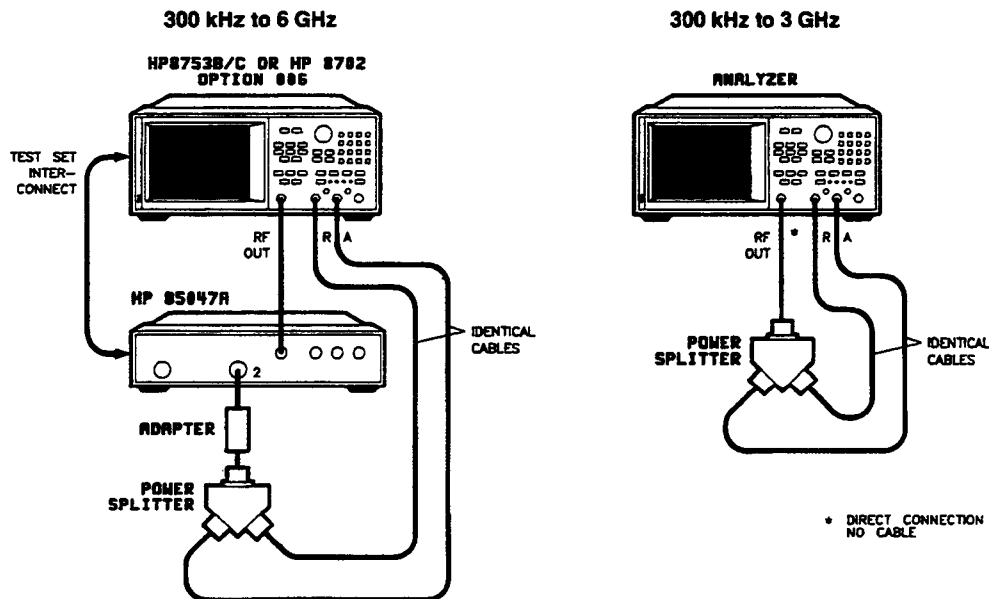

Figure 20. Input A Sampler Correction Constant Setup
Figures 20, 21, and 22 each show two different test setups. The setup without an HP 85047A test set is for instruments which do not have option 006. The setup with an HP 85047A test set is for testing option 006 instruments.
18. When the instrument completes the first part of the adjustment, change the equipment setup as shown in Figure 20. Use two cables of equal electrical length at the power splitter outputs.